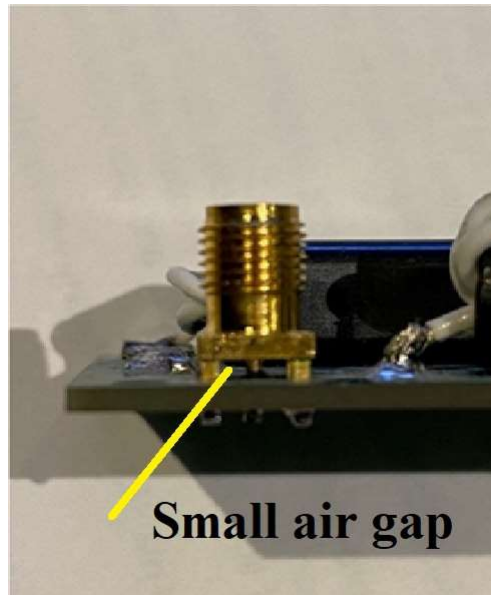

Figure 24. Mounting The SMA Connector.
10. Finally, Place J1, J2, J3, J4 connectors. Slide a scrap piece of wire under the SMA connector to lift it off the board just slightly prior to soldering so that it does not short the center conductor to the connector shell (see Figure 24).